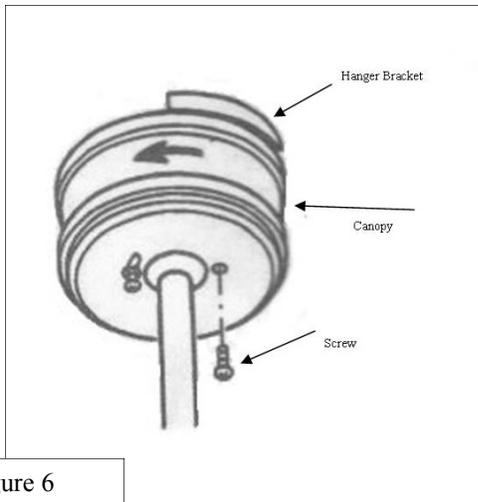

Figure 6
- The 2 screws on the mounting bracket face should slip through the keyhole slots in the canopy. (figure 6) Tighten until snug but do not over tighten as this is a decorative part only.